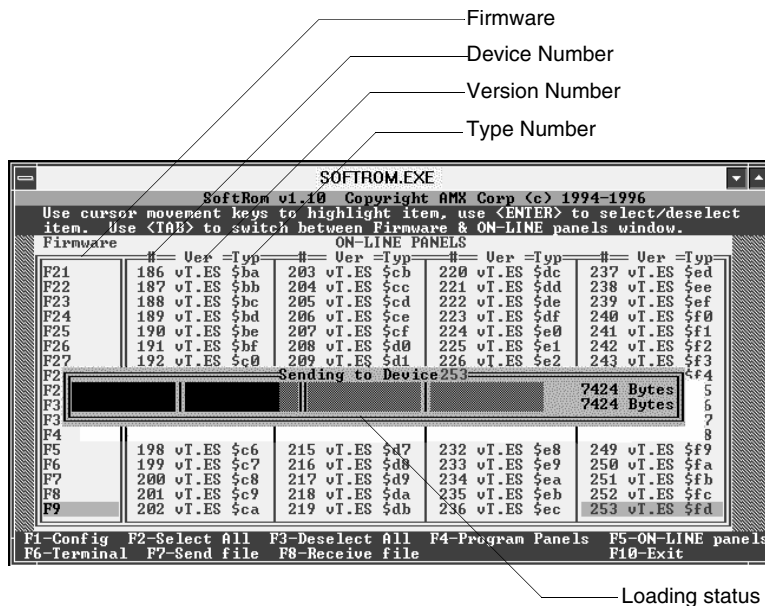

FIG. 2 Loading status bar
5. Press F4 to program the selected device(s), the loading status bar in FIG. 2 then appears.